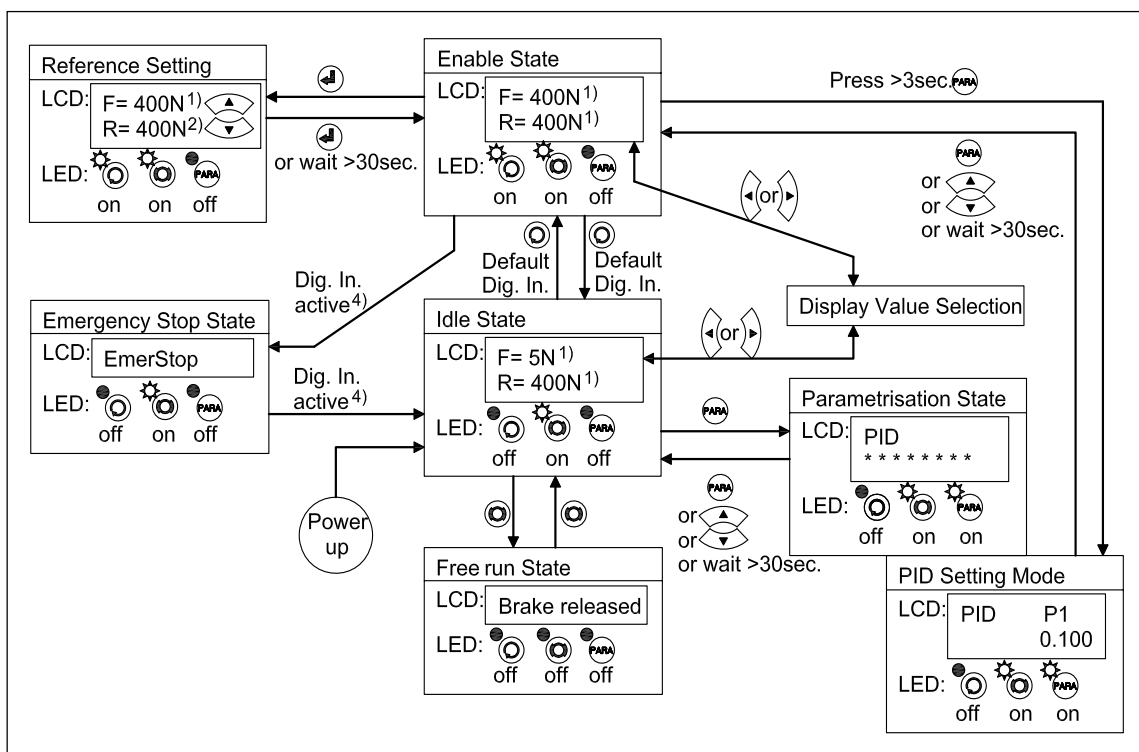
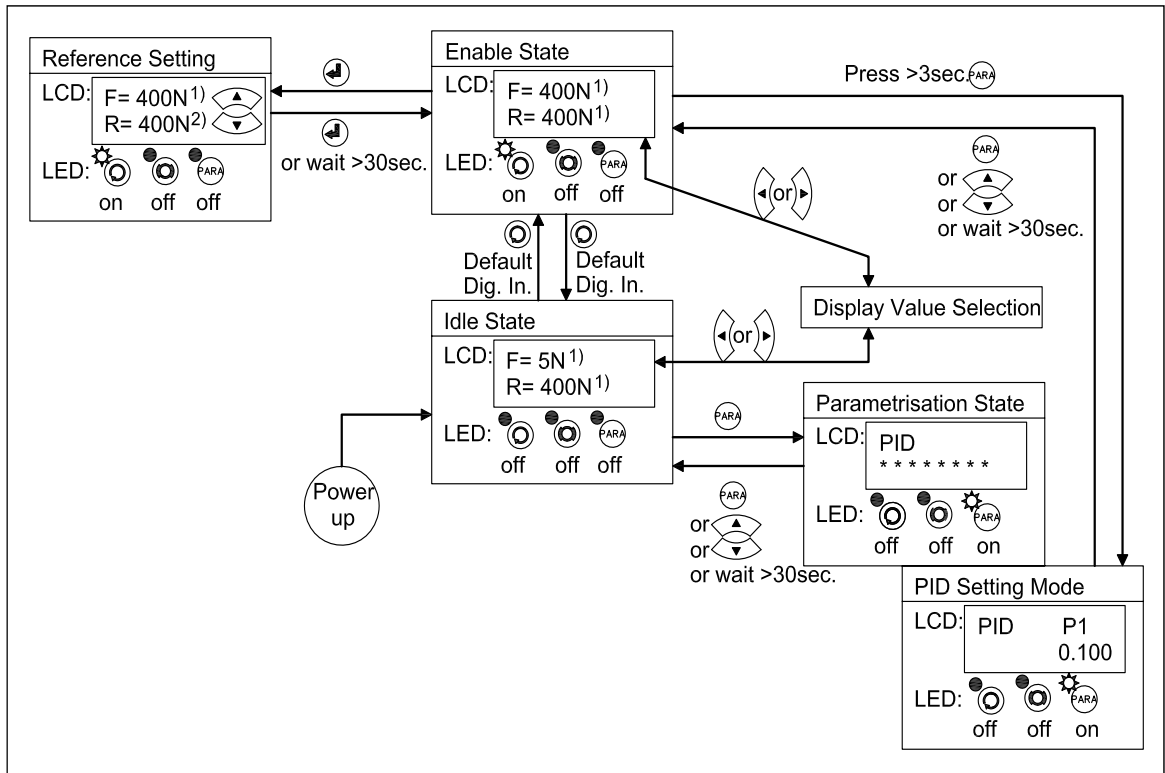

Fig. 17: Top-level view of operation control for brake applications
Fig. 18: Top-level view of operation control for drive applications
The user can toggle between the different states by pressing a key on the front panel. Fig. 17 and Fig. 18 provide an overview about the different Operation States and how to move from one state to the other.
2. Go to “Enable Sate” (see Fig. 17 or 18)
The Parametrisation State can only be accessed from the “**Idle State**”. From the “**Enable State**” only the Parameter Group “**PID**” can be reached (**Fig. 17** and **18**). The tension controller CMGZ309 displays only the parameters that are relevant for a chosen control mode. If you have configured your system e.g. for a Drive Application, no Brake relevant parameters such as *Brake Time*, *Holding Torque* *Diameters* etc. will be displayed. In the following State Diagrams every parameter features a small table which indicates its application field.